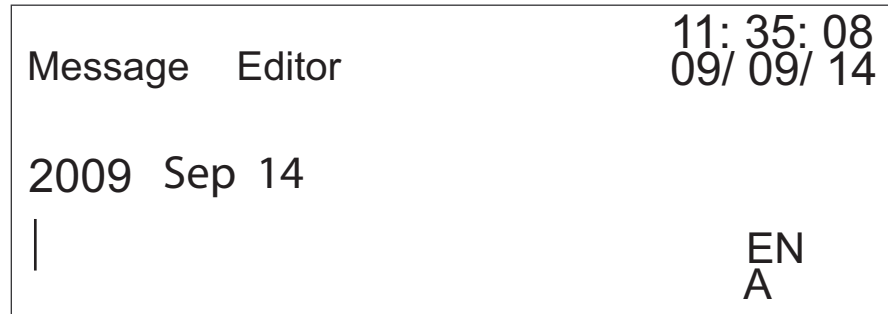

Figure 4-29: Message Editor
- 5 Press  to move the cursor to the second line. Press  to move the cursor to position (refer Figure 4-29).